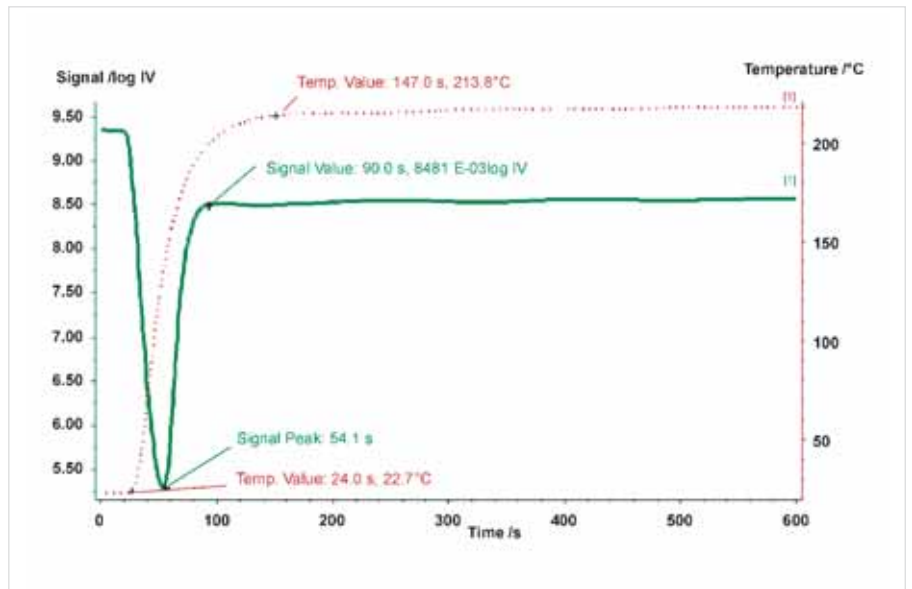

Fig. 1. Measurement of an adhesive during a temperature ramp.
1. Curing of an adhesive with a temperature ramp of 23°C to 220°C in 123 s, approximately corresponding to process conditions (Fig. 1)